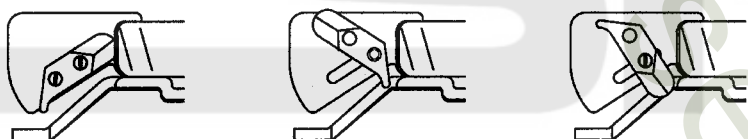

Fig. 23
- They make material flat so that it can get uncurred at the mouth of suction pipe. Change their position, direction, and thickness according to sorts of material. (Fig. 23)